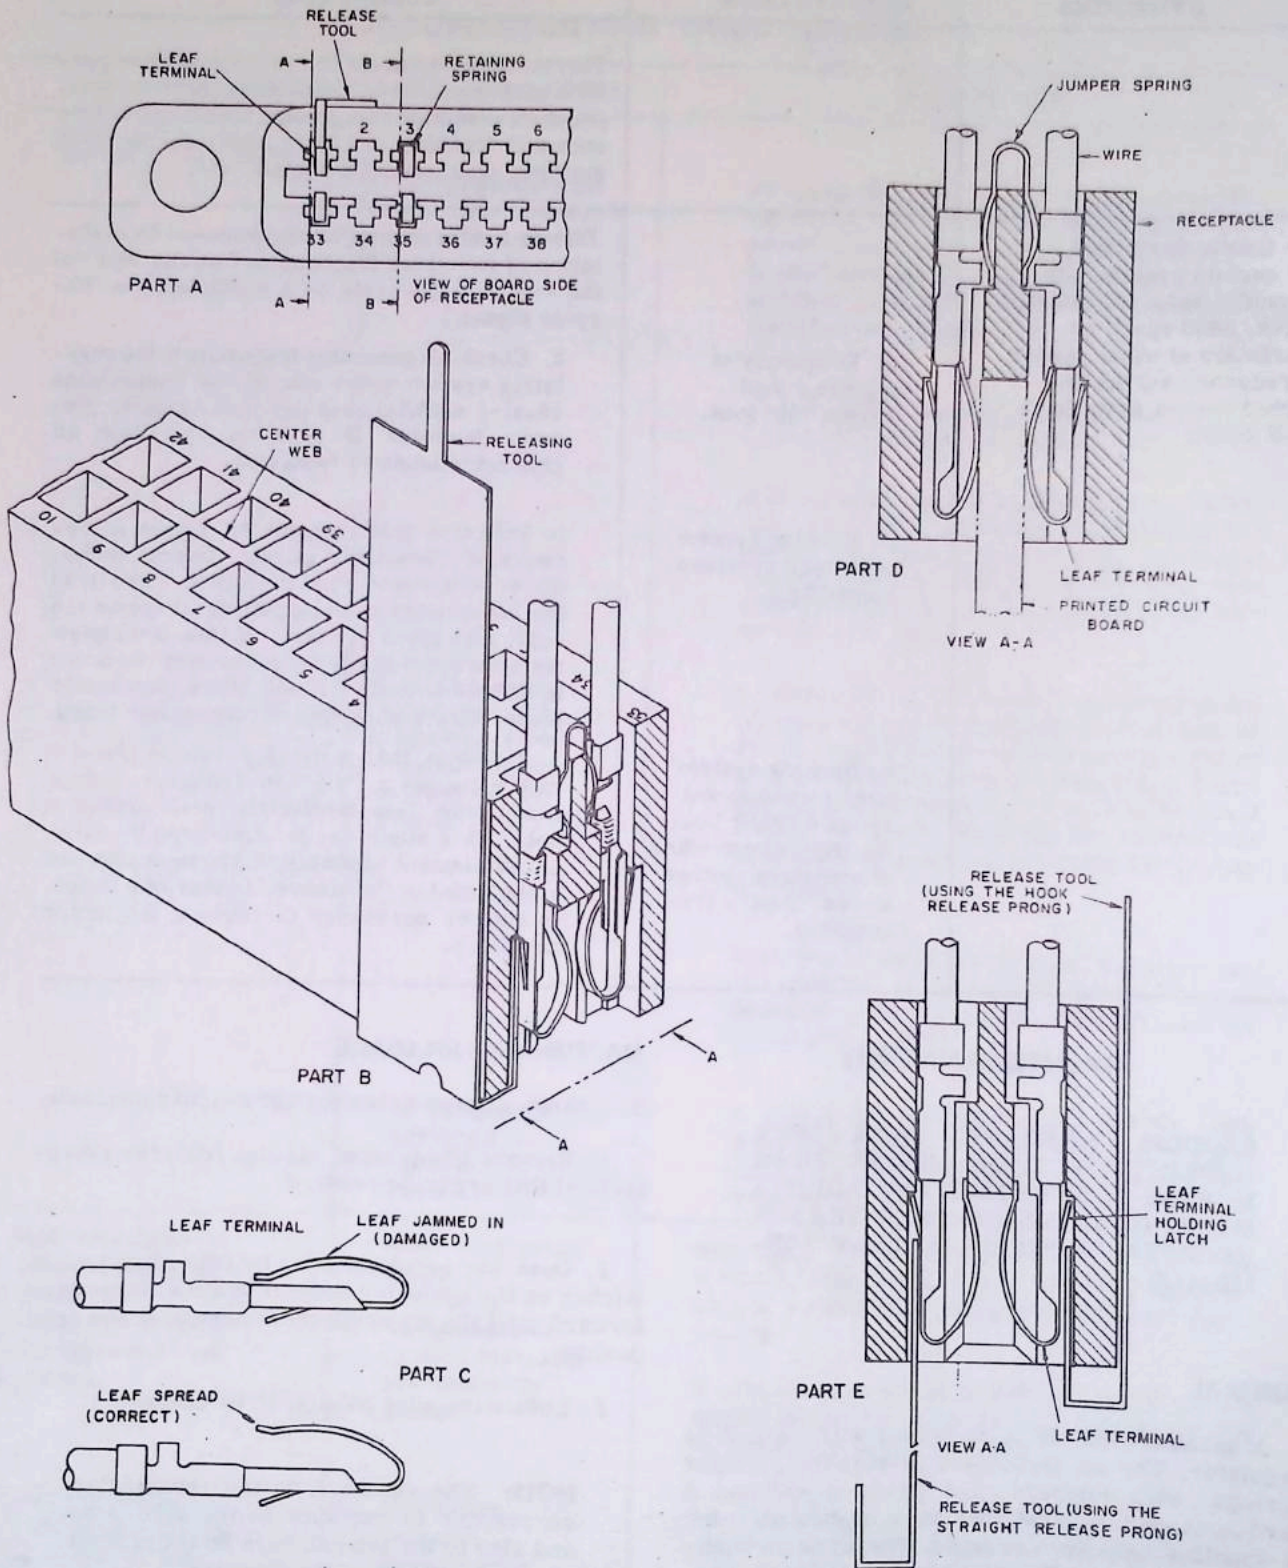

Fig. 1. Leaf terminal construction and removal technique
4. Remove the jumper springs (if present) from connections which are to be changed **BEFORE** removing or adding wires. See Fig. 1, part A.
a. Insert the release tool as shown in Fig. 1, part B or E.
b. Remove the wire, which has a crimped-on leaf terminal, as the release tool depresses the leaf terminal-holding latch. See Fig. 1, part B or E.
a. Check each leaf terminal for damage before inserting it into the receptacle. See Fig. 1, part C.
b. Insert the lead terminal in desired location and push until the holding latch snaps into place. See Fig. 1, part D.
NOTE: Insert the jumper spring on the center web only (horizontally adjacent terminals) and push with a screwdriver or similar tool until the spring is seated on the receptacle shoulder. See Fig. 1, part D. Too much pressure will either damage the spring or push the spring over the receptacle shoulder, causing a malfunction.